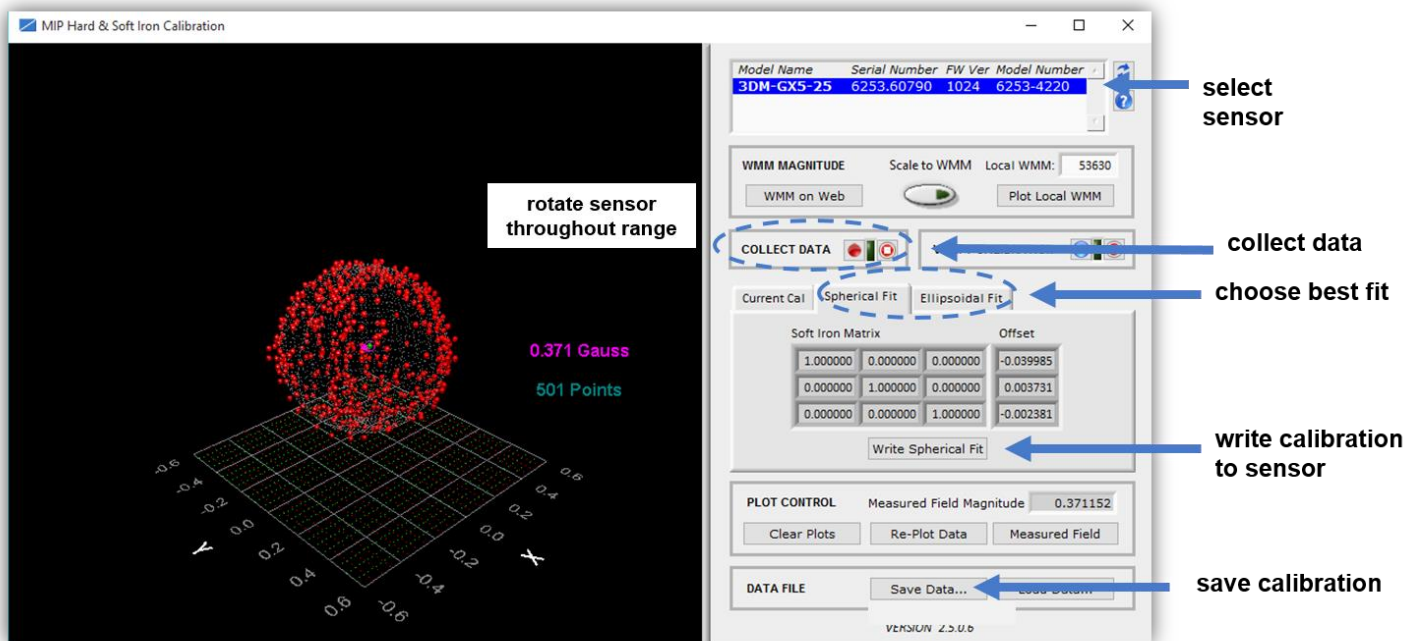

Figure 27 -Collect Calibration Data
- Click the Spherical Fit or Ellipsoid Fit button, depending on the application (*Figure 27 - Collect Calibration Data*). Spherical Fit is often best for applications with calibration rotations restricted to a 2D plane: for example, a ground vehicle or a boat, because it will